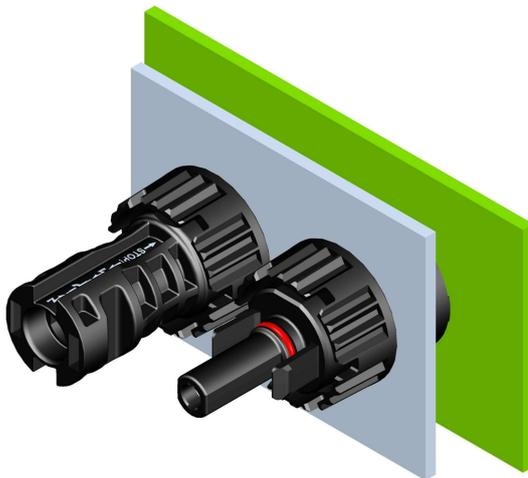

Figure 3
- ✧ 安装公/母面板连接器时，推荐用 2.0 N.m 的扭矩锁紧螺母。具体情况，需要由终端用户根据不同的面板验证合适的扭矩(如图 3)。
When installing the male or female panel connector, it is recommended to lock nut by 2.0 N.m torque. The appropriate torque has to be verified in the end use according to the respective housing (Fig.3).